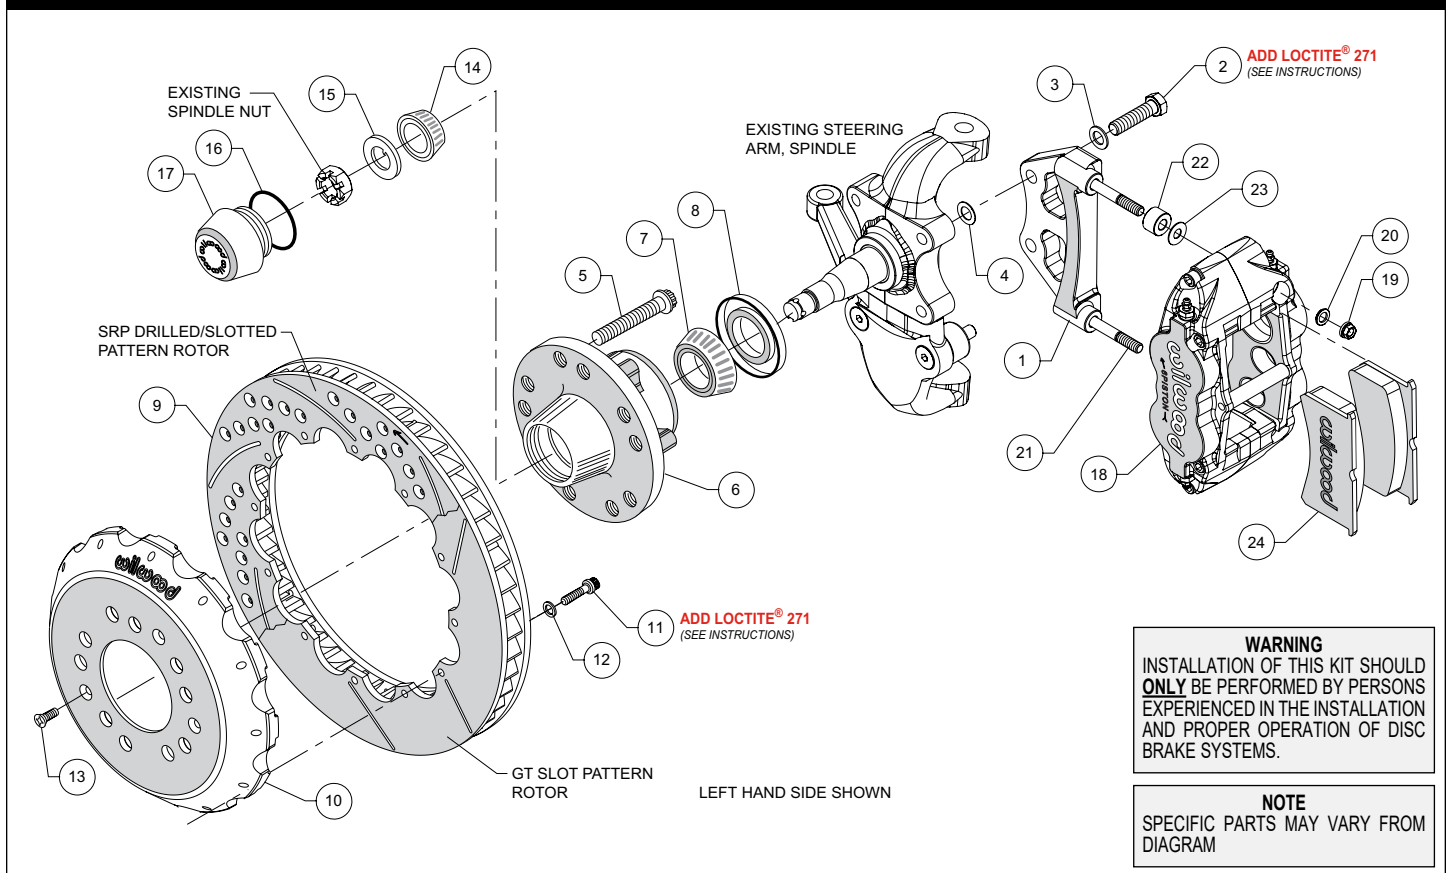
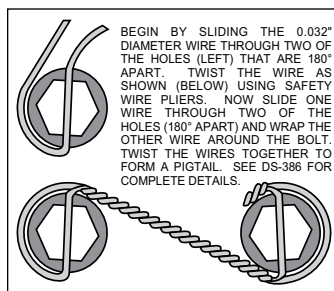

Figure 1. Typical Installation Configuration
Figure 3. Safety Wire Diagram
Assembly Instructions (numbers in parenthesis refer to the parts list on the preceding page, and Figure 1):
- The caliper mount bracket (1) should initially be installed with clean, dry threads on the mounting bolts. Orient the bracket as shown in Figure 1, and install using bolts (2) and washers (3). Initially place one .032" thick shim (4) on each bolt between the bracket and upright, Figure 1 and Photo 1. Temporarily tighten the mounting bolts. **NOTE: The bracket must fit squarely against the mount bosses on the upright.** Inspect for interference from casting irregularities, machining ridges, burrs, etc. Later, after the caliper alignment has been checked, the mount bolts will be secured using red *Loctite*® 271.
- Pack the large inner bearing cone (7) with high temperature disc brake bearing grease (available from your local auto parts store) and install into the backside of the hub (6), Photo 3.
- Install the grease seal (8) by pressing into the backside of the hub (6), flush with the end of the hub, Photo 3.
- Orient the rotor (9) and the hat (10) as shown in Figure 1 and Photo 4. Attach rotor to hat using bolts (11) and washers (12). Apply red *Loctite*® 271 to the bolt threads and torque to 155 **in-lb** using a criss-cross pattern. For an added measure of security, the bolts may be safety wired using standard 0.032 inch diameter stainless steel safety wire as shown in Figure 3. Refer to Wilwood's data sheet DS-386 (available at www.wilwood.com/Pdf/DataSheets/ds386.pdf) for complete safety wire installation instructions.
- NOTE:** This kit contains distinct right and left hand calipers that must be mounted in a specific direction, as described below. Initially place one .035" thick shim (23) and one spacer (22) on each stud (21) between the caliper and the bracket, as shown in Figure 1 and Photo 7. Mount the caliper (18) onto the bracket (1) using lock nuts (19) and washers (20), Figure 1. Ensure that the caliper is mounted so the largest pistons are at the rotor exit end of the caliper, in relation to the direction of rotor rotation. Temporarily tighten the lock nuts and view the rotor through the top opening of the caliper. The rotor should be centered in the caliper, Photo 8. If not, adjust by adding or subtracting shims (4) between the bracket and the upright. Always use the same amount of shims on each of the two mounting bolts. Once the caliper alignment is correct, remove the bracket mounting bolts (2) one at a time, apply red *Loctite*® 271 to the threads, and torque to 90 ft-lb.